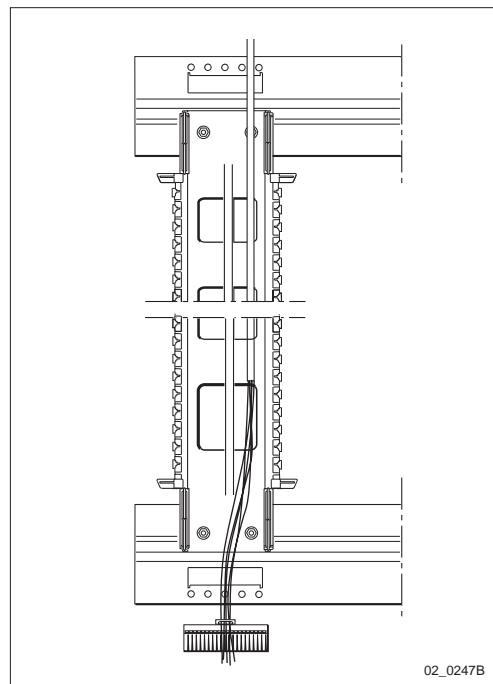

Figure 2
6. Pass the conductors through the wire guide on the rear side of the block. See figure 2.